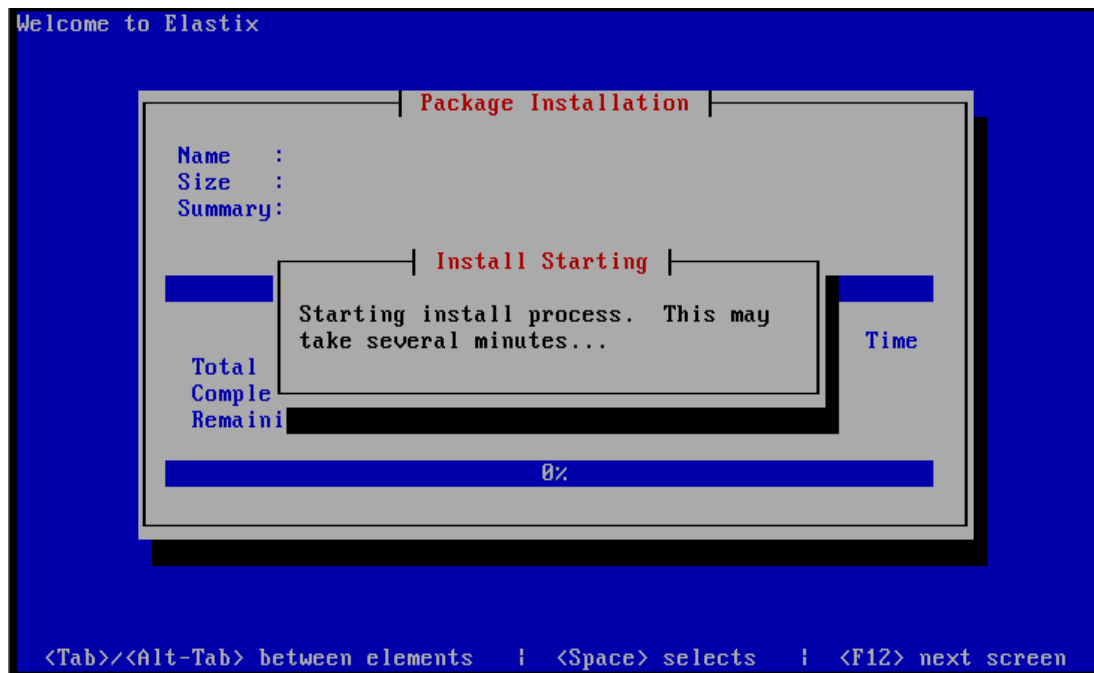

Figure 13
13. Next, the partitioning and formatting of the HD begins. After that, the system installation starts. Upon all files being installed successfully, the PC will be restarted automatically (Figure 13).